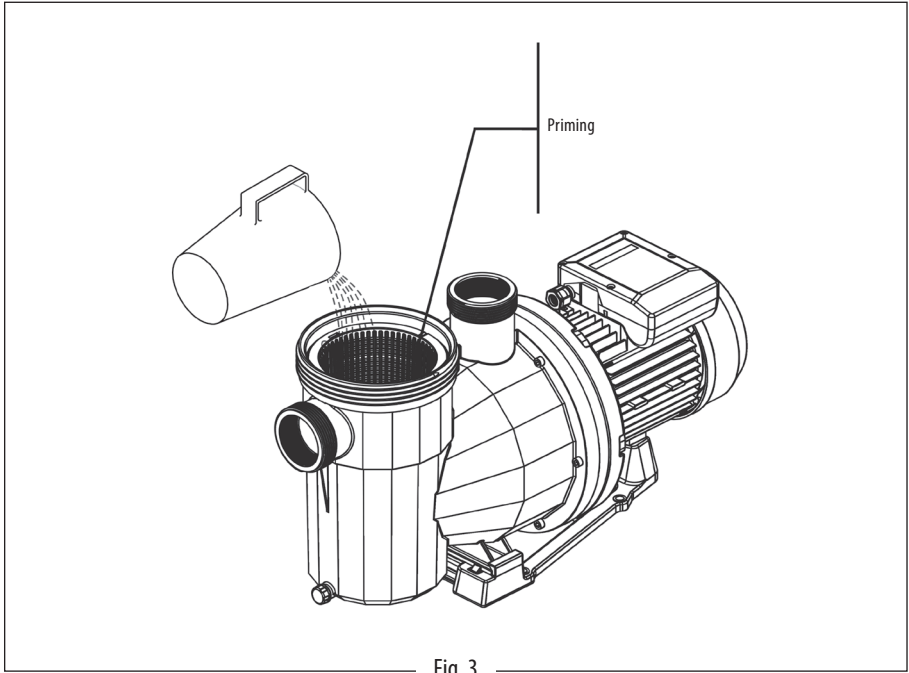

Fig. 3
- To ensure the pump works correctly, prime the pump pre-filter until water rises up through the suction pipe (Fig. 3).